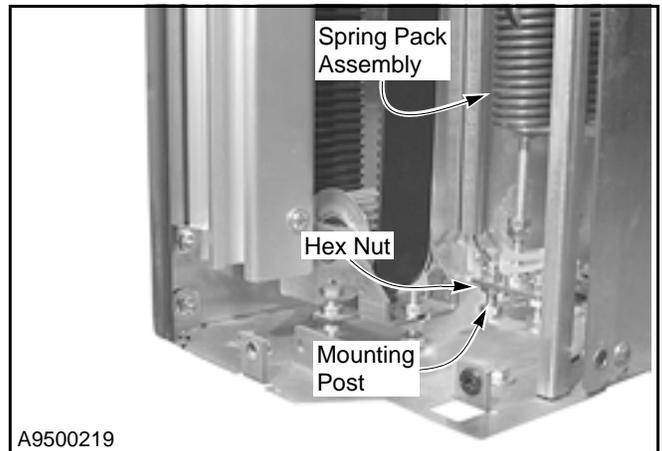

Figure 64
5. Disconnect the associated spring pack assembly from the base plate. To retain the preload setting of the spring pack, loosen only the lower hex nut on each mounting post. (See Figure 64.)